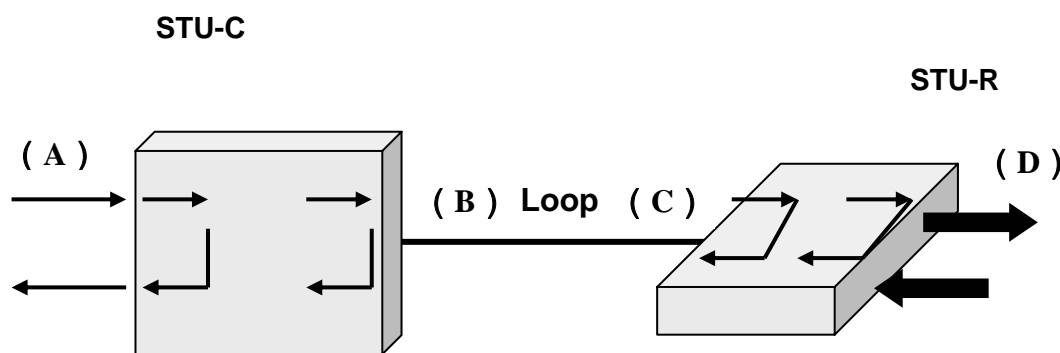

Figure 2.4 Remote payload Loopback
The Remote Payload Loopback is able to be activated and deactivated through EOC via CID interfaces, and is set up inside STU-C/STU-R as close as possible to the network side interfaces. The received signal is sent to network side interface. For example, if Remote Payload Loopback is activated at STU-C, the direction of Remote loopback would be like (D) in figure 2.4